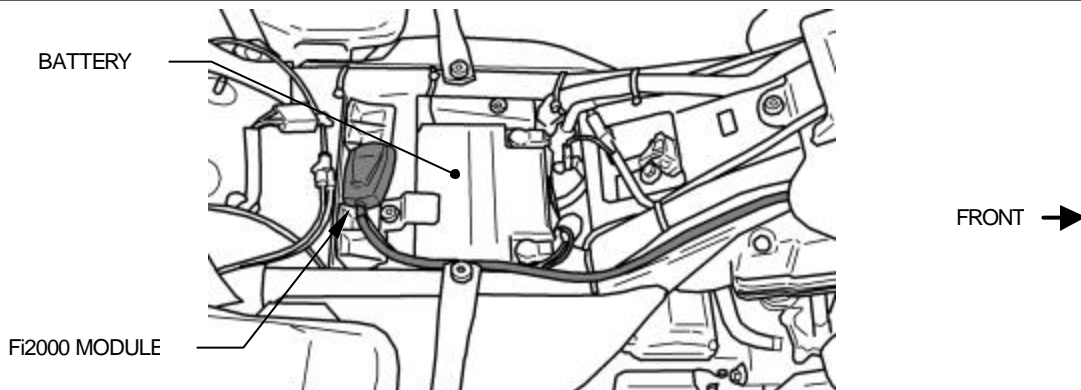
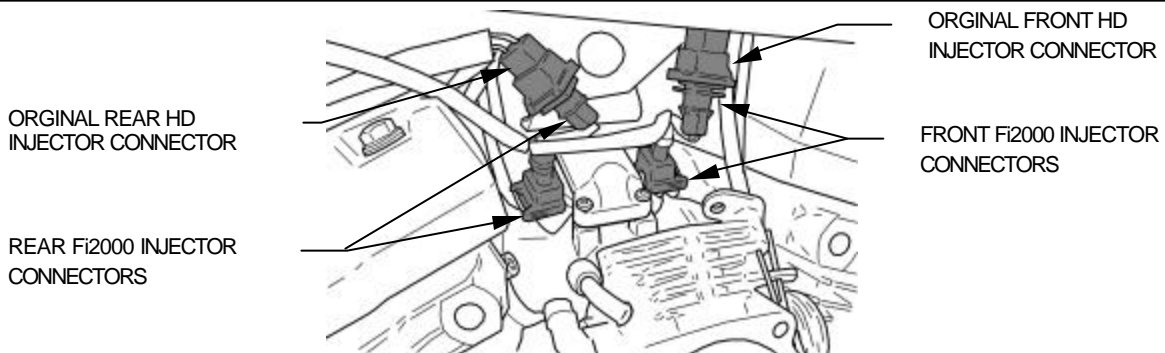
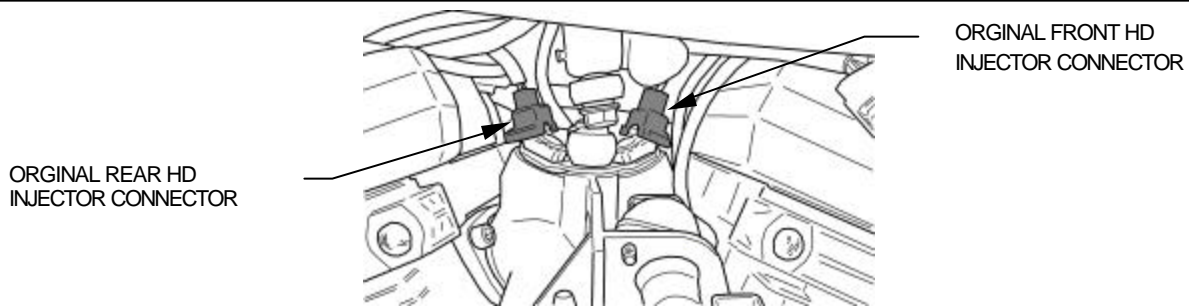

FIGURE 1
FIGURE 2
FIGURE 3
5. Lay the Fi2000 module in place, but do not attach it to the motorcycle, and run the wiring harness up to the manifold area behind the other wiring of the throttle body (See figure 1). Attach the Fi2000 module's forward injector plug, with the grey and red wires, onto the front injector. Then take the original HD connector and insert the corresponding Fi2000 connector, with the brown and red wires, into it. (For model years 02' and Up refer to figure 2, for model years 95-01 refer to figure 3)
6. Attach the Fi2000 module's rear injector plug, with the blue and red wires, onto the rear injector. Then take the original HD connector and insert the corresponding Fi2000 connector, with the green and red wires, into it. (For model years 02' and Up refer to figure 2, for model years 95-01 refer to figure 3)
7. Before re-installing the gas tank, seat and air cleaner assembly, verify your connections. Remove the door from the Fi2000 box to expose the LED's. Verify the wire connections by (1) turning the ignition on, prior to starting, and see if all three LED's are on steady. If you have no light, your ground connection (BLACK wire) has not made proper contact or your front injector connection is not complete. (2) After achieving a steady light from all three LED's, start the motorcycle, wait 15 seconds and let it idle, the green light should now be the only LED on. If all three LED's are still on after start up, verify you have attached the injector connectors correctly. Reattach the door when finished. **Note:** Make sure the ignition is turn off before changing any connection.
9. Remove the backing from the Velcro and attach the Fi2000 next to the battery as shown in fig 1.